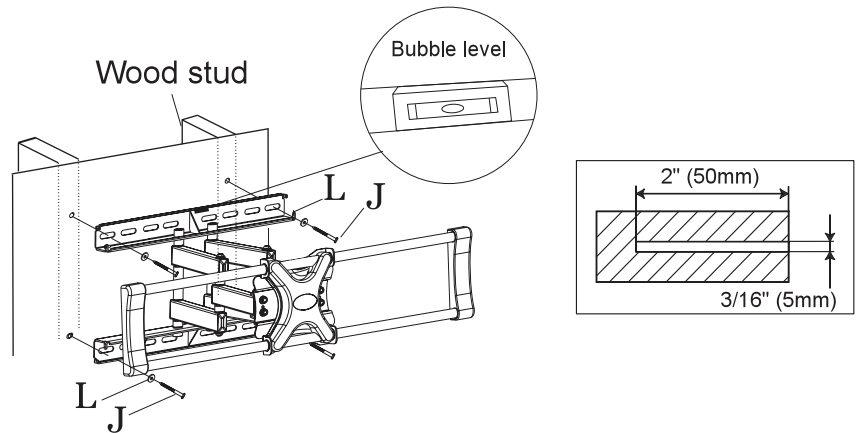

Fig. 3c
2. Place the wall mount flat against the wall with the center of the mount in the desired location, aligning the holes in the mount with the studs (Fig 3c). Use the wall plate as a template to mark the location of all four mounting holes on the wall. Make sure that the mounting holes are level and are parallel.
4. Use a wrench, the four long bolts (J), and washers (L) to attach the wall mount to the wall. Do not use wall anchors in wood stud walls.